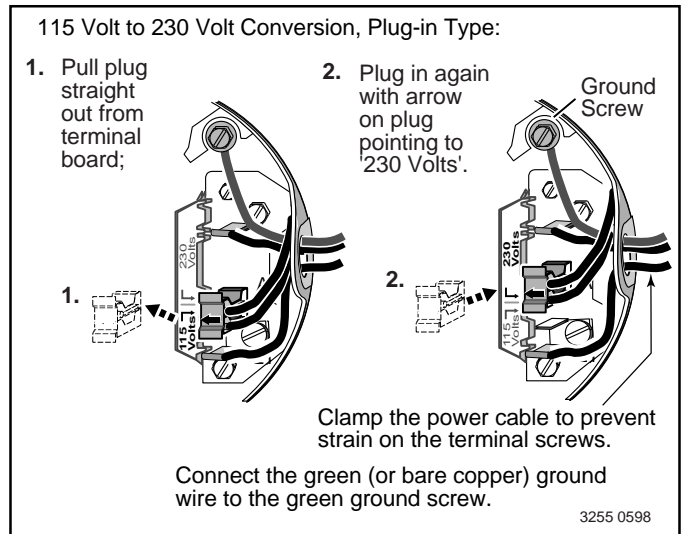

Figure 6: Motor wiring connection, Plug-in
To Convert 115 Volts to 230 Volts, Plug-in type (see Figure 6).
3. Connect the green (or bare copper) ground wire to the green ground screw first (see Figure 6). Use a solid copper wire at least as large as the power supply wires.
4. Pull the plug straight out from the terminal board, from 115 Volt socket (Figure 6).